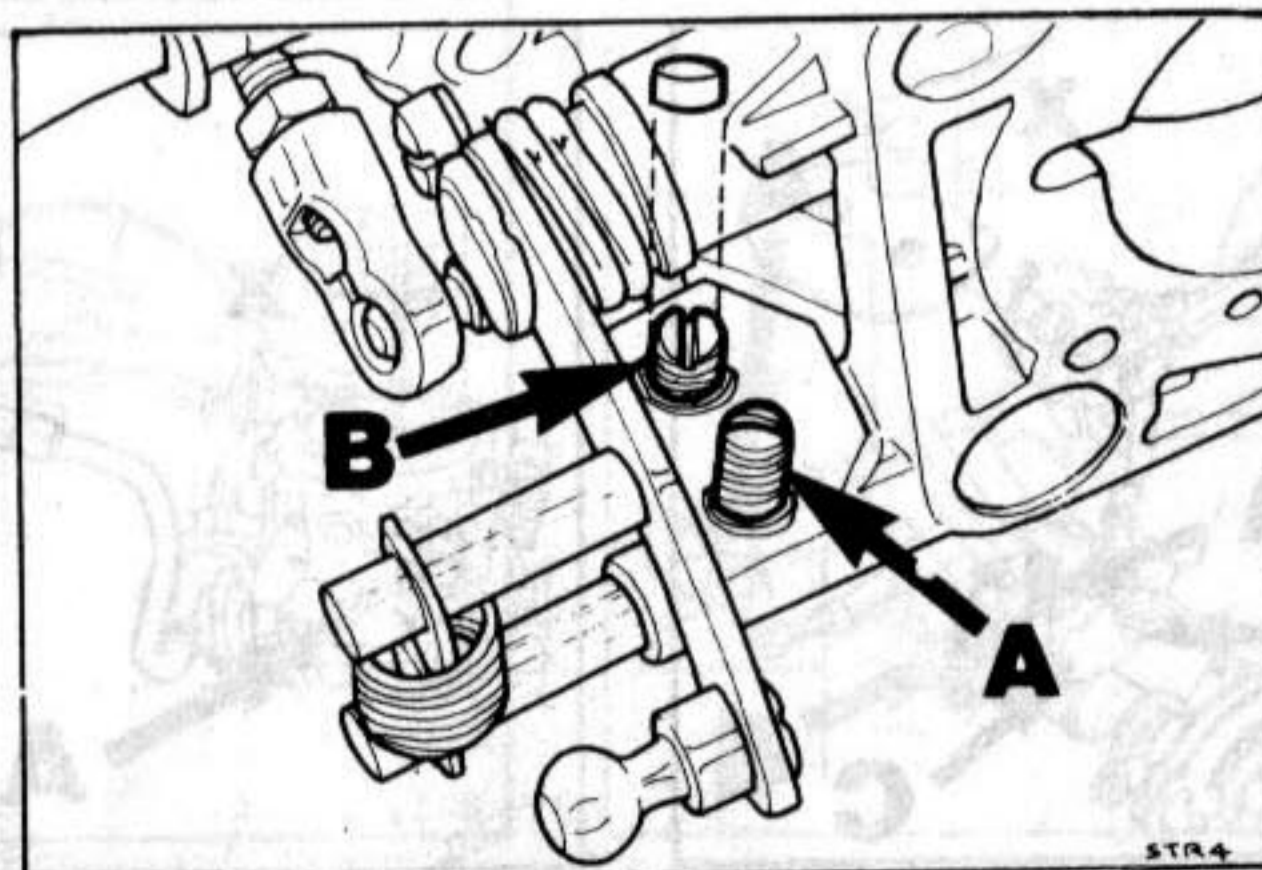

Fig. 2 Idle adjustment screws
Check that idle speed screw (A, Fig. 2) rests against throttle stop when engine idling.
- If outside specified limits, adjust by turning idle speed adjusting screw (A, Fig. 2).
- g) Note engine fast idle speed. Adjust if necessary by turning fast idle screw (B, Fig. 2).